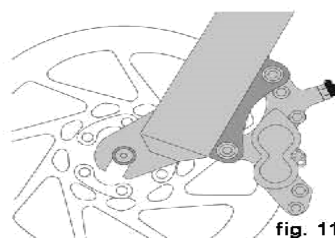
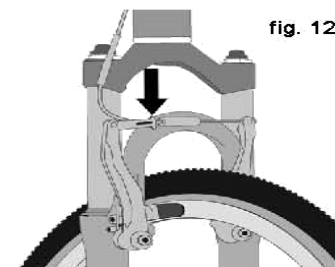

fig. 11
fig. 12
3. Some bicycle brakes, such as disc brakes (fig. 11) and linear-pull brakes (fig. 12), are extremely powerful. Take extra care when using them.